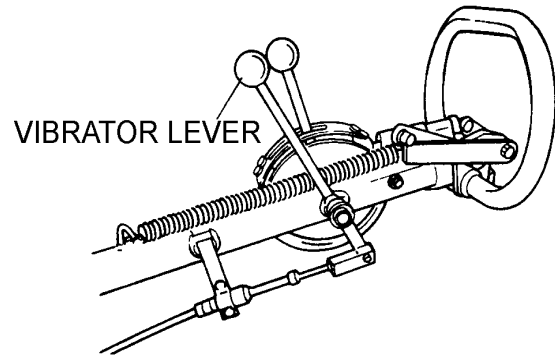

Figure 22. Vibrator Lever
1. Shift the two vibrator levers ( Figures 22 and 23) to the vibrate position to start vibrations.